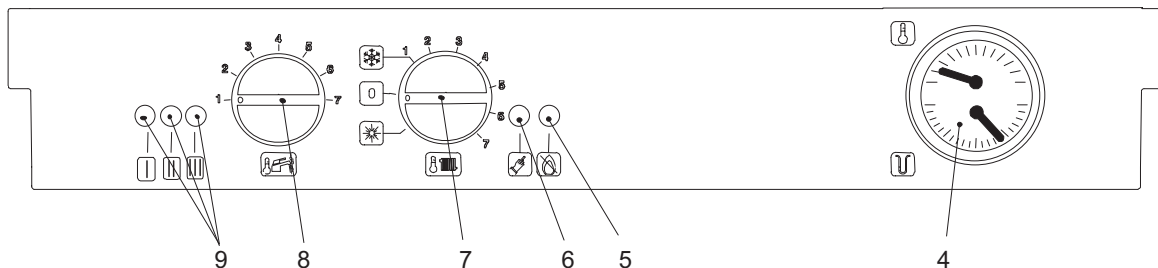
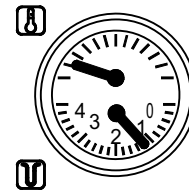

Figure 3.2
Figure 5.1
Three lights (9 in Fig. 3.2) give detailed indication regarding the operation of the boiler. The following table gives the relationship between each of the possible light combinations and their meaning.
- Ensure that the Central Heating circuit is regularly filled with water checking that the pressure indicated on the temperature and pressure gauge (4 on figure 3.2) is not lower than 1 bar (14.5 psi) as shown on figure 5.1.
- The temperature and pressure gauge (Fig. 5.1 on page 11) will allow you to check that the set temperature is obtained.
- You should check that the pressure on the temperature and pressure gauge (Fig. 5.1 on page 11) is not below the correct setting.
If the pressure on the temperature and pressure gauge (Figure 5.1 on page 11) has gone down:
- Check on the temperature and pressure gauge (figure 5.1 on page 12) that the pressure in the central heating circuit is not close to 3 bars (43.5 psi). In this case, temperature rise in the circuit can cause the pressure relief valve to open.